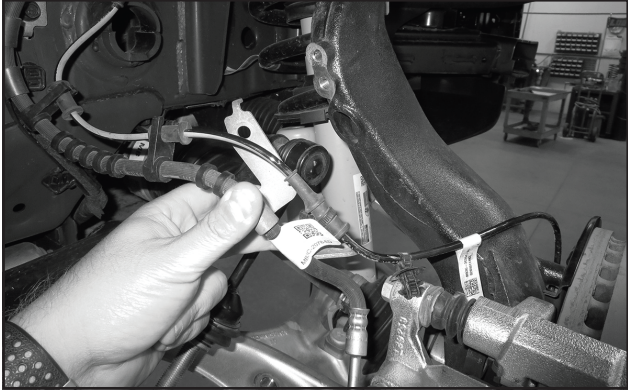

FIGURE 1 - STEP 2
2. Using an 8mm & 10mm socket, remove the ABS line and brake line brackets from the knuckle. Save hardware. **(FIGURE 1).**